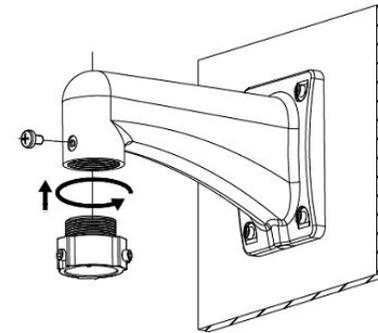

Figure 2-3
Step 3 Thread in the collar adapter and secure with locking screw as shown in. Figure 2-3.